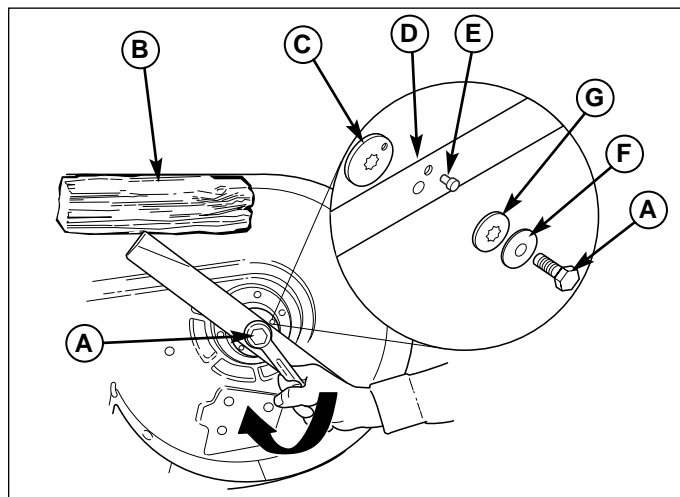
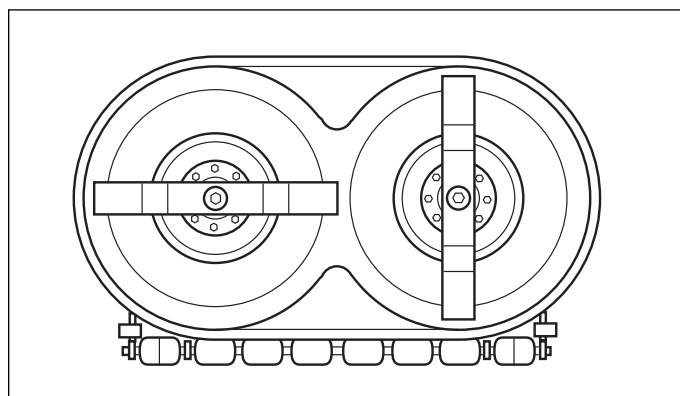

Figure 27. Blade Installation - 40" Mowers
Figure 28. Check Blade Timing
40" Mowers: Remove the capscrew (A, Figure 27), spring washer (F), spline washer (G), alignment pin (E) and blade (D). Do not remove the blade adapter (C).
40" Mowers: Be sure the blades are positioned perpendicular to each other as shown in Figure 37. If not, perform the Mower Blade Timing procedure found in this section. Reinstall the spline washer (G, Figure 27), spring washer (F) and capscrew (A). Use a wooden block (B) to prevent blade rotation while tightening the capscrew (A) to 61-75 N.m (45-55 ft. lbs.).
2. Turn the mower deck over and check the position of the blades. The blades must be positioned perpendicular to each other as shown in Figure 28. If not, proceed to step 3.
4. Remove the capscrew (A, Figure 27), spring washer (F), and spline washer (G).
5. Remove the alignment pin (E, Figure 27). Rotate the blade (D) manually until the blades are perpendicular to each other as shown in Figure 28. It may be necessary to remove and rotate the blade adapter (C) to align the blade hole and adapter hole.
6. Reinstall the alignment pin (E), spline washer (G), spring washer (F) and capscrew (A). Use a wooden block (B, Figure 27) to prevent blade rotation while tightening the capscrew (A) to 61-75 N.m (45-55 ft. lbs.).